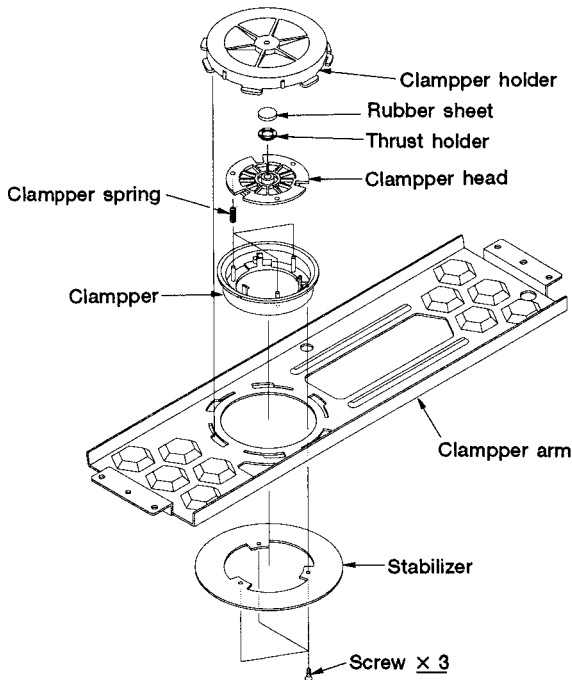

Fig. 2-6 Clammer unit
- ④ Clamper unit (Fig. 2-6)
④ Clammer Unit (Refer to Fig. 2-6)
While the servo-mechanism unit is ascending, the disc on the tray is lifted and the clamber waiting on top is pushed up. Clamping force is generated (Fig. 2-6) from the force of the clamp spring between the clamber and clamber head.